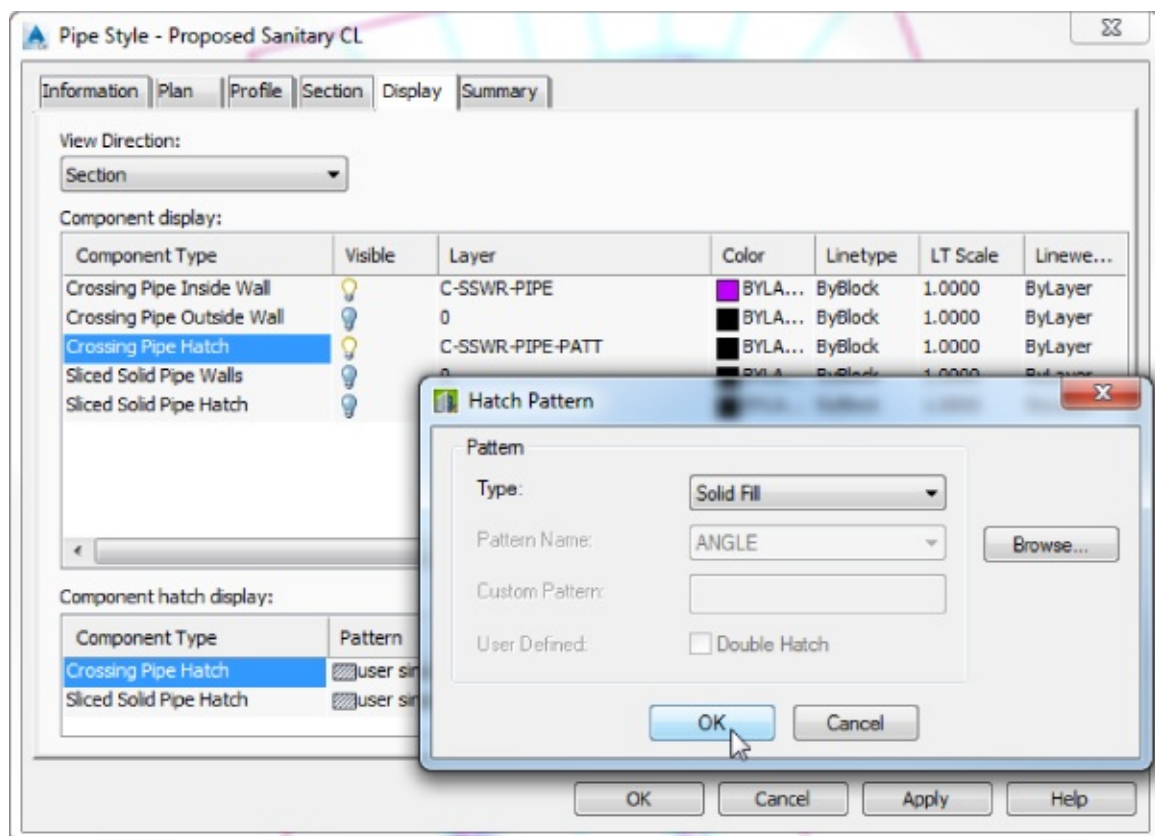

Figure 19.39 Setting the Hatch Pattern display for the Section View Direction
- e. Set Type to Solid Fill, as shown in Figure 19.39, and click OK.